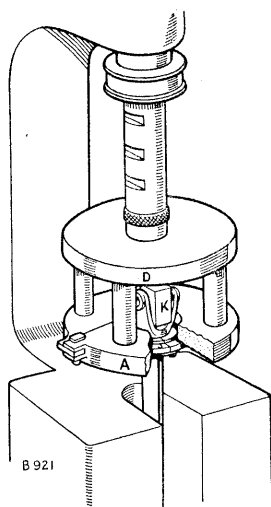

Fig. F-22—
1. Stand the half shaft on its splined end and press down squarely on the conical distance piece, using press blocks, A, D, J and K (Part No. 245178) (Fig. F-22).